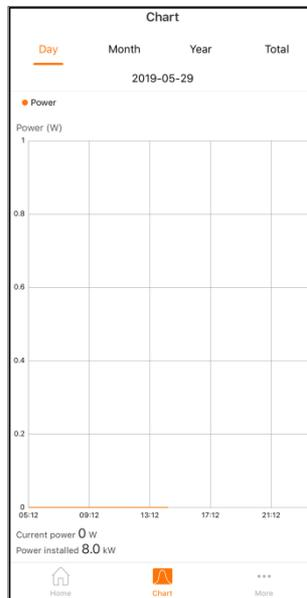

Fig 3-4 Power curve
Step6 Click "Chart" on the navigation bar to enter the screen showing daily power generation curve, as shown in the following Fig 3-4.